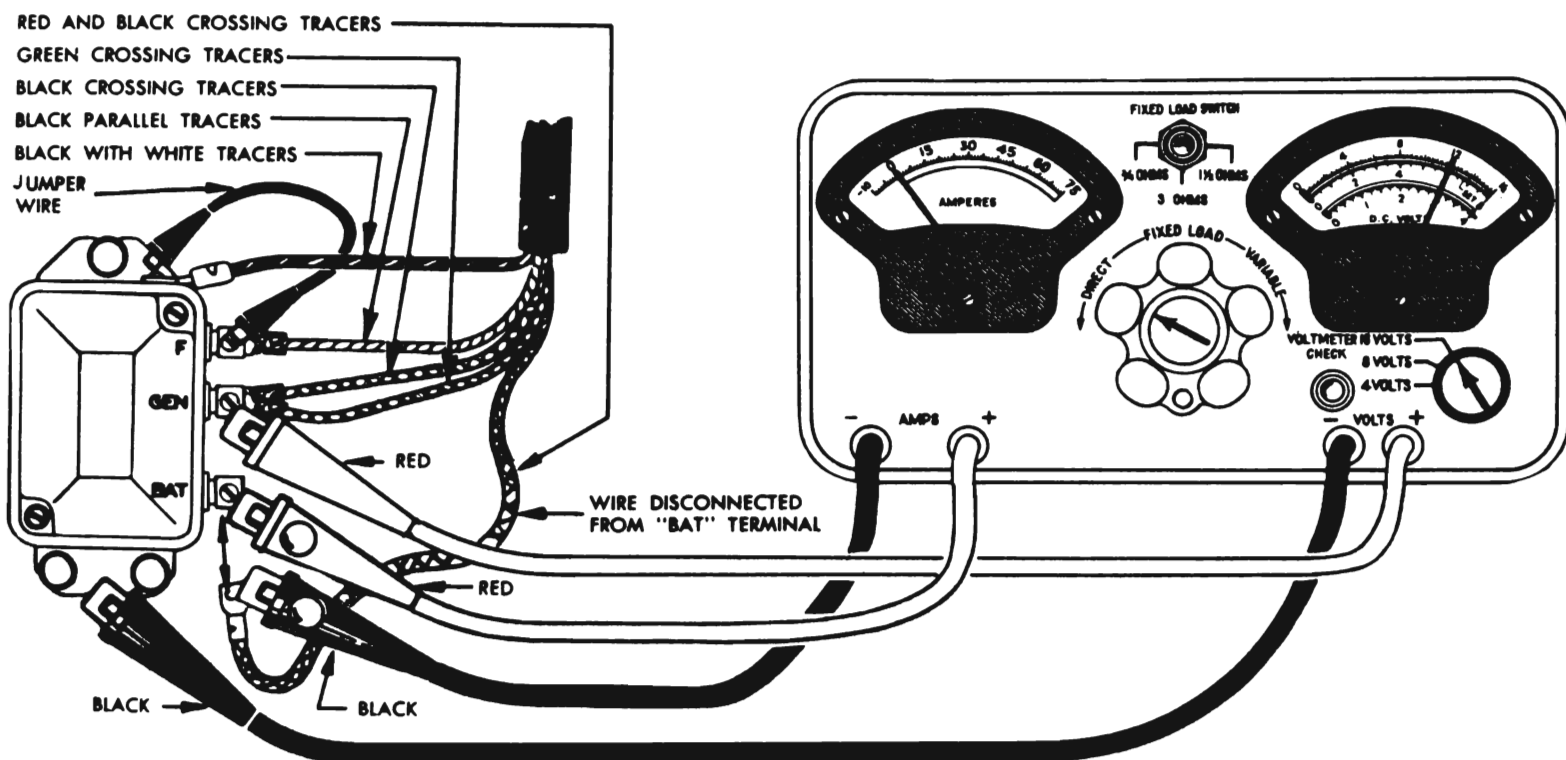

Figure 10-14—Cutout Relay Test Connections—Sun Tester
3. Depress the release button on the Control Knob of Volts Ampere Tester and rotate knob counterclockwise to the stop in "DIRECT" position. Turn voltmeter Selector Switch to the "8 VOLT" position. See figure 10-14.
4. With engine stopped, disconnect wire from regulator terminal marked "BAT", connect the black ammeter test clip to the disconnected wire, and connect the red (+) test clip to the regulator "BAT" terminal. See figure 10-14.
5. Connect the red (+) voltmeter test clip to the "GEN" terminal of regulator and connect the black (-) voltmeter test clip to ground on base plate of regulator. See figure 10-14.